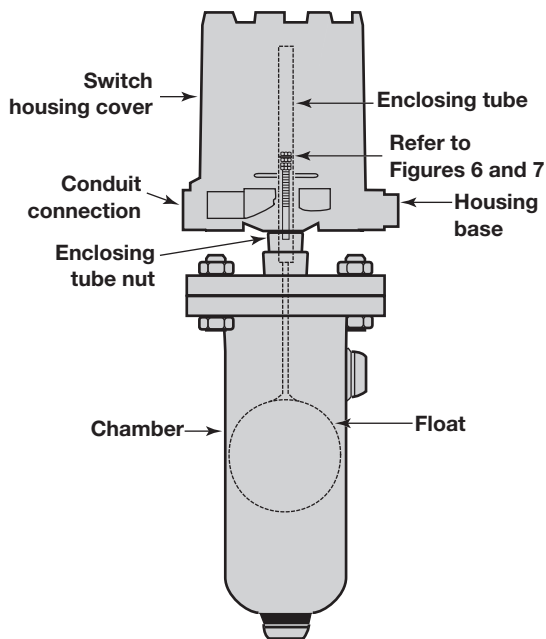

Figure 7
4. Disconnect power supply wires from switch mechanism. Pull wires out of conduit connection opening in housing base. Refer to **Figure 7**.
6. Loosen enclosing tube nut with a  $\frac{1}{16}$ " wrench. Unscrew enclosing tube counterclockwise (switch and housing base will rotate also), until it is free. Refer to **Figure 7**.